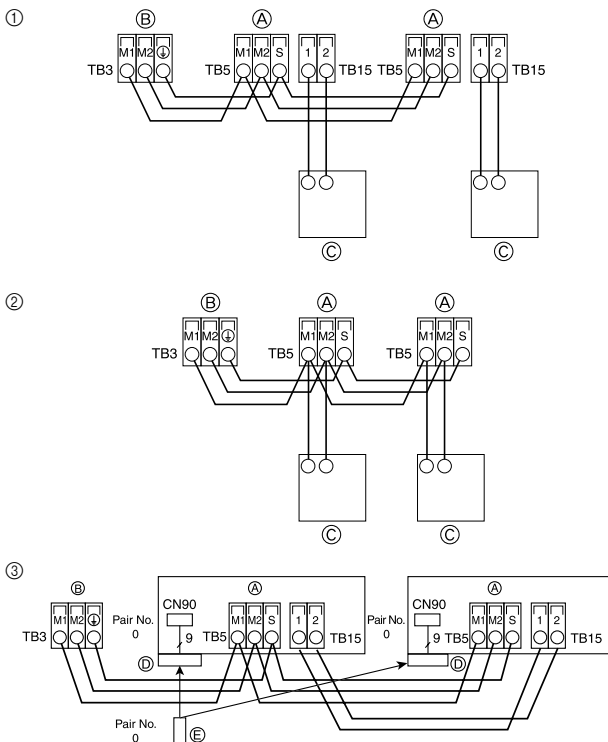

Fig. 4-5
4.4. Connecting remote controller, indoor and outdoor transmission cables (Fig. 4-5)
① MA Remote controller
② M-NET Remote controller
③ Wireless remote controller (When installing wireless signal receiver)